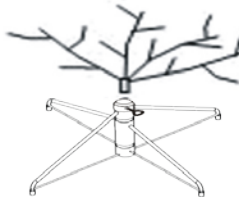

Fig. 4
5. Connect light set plug from section (A) and (B) into outlet of extension cord (E1) mounted in section (B). Then connect light set plugs from section (B) and section (C) into extension cord (E2) hanging down from section (B).(See Fig.4,5)
4. Insert the tree into the stand and adjust accordingly. The tree should be straight and balanced correctly. (See Fig.4)